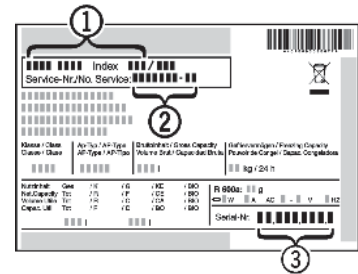

Fig. 10
- ▶ Read the appliance designation *Fig. 10 (1)*, service no. *Fig. 10 (2)* and serial no. *Fig. 10 (3)* from the rating plate. The rating plate is located inside the appliance on the left-hand side.
- ▶ Notify a qualified service provider, specifying the fault, appliance designation *Fig. 10 (1)*, service no. *Fig. 10 (2)* and serial *Fig. 10 (3)* no.